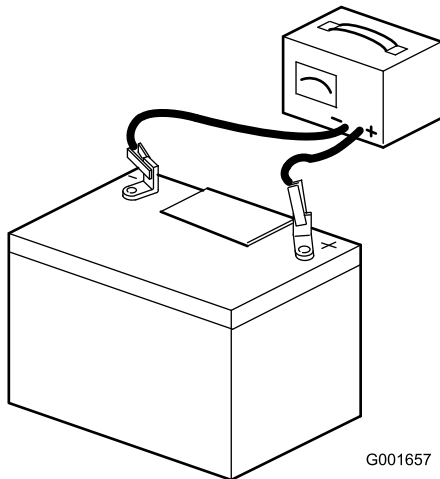

Figure 48
- When the battery is fully charged, unplug the charger from the electrical outlet, then disconnect the charger leads from the battery posts (Figure 48).